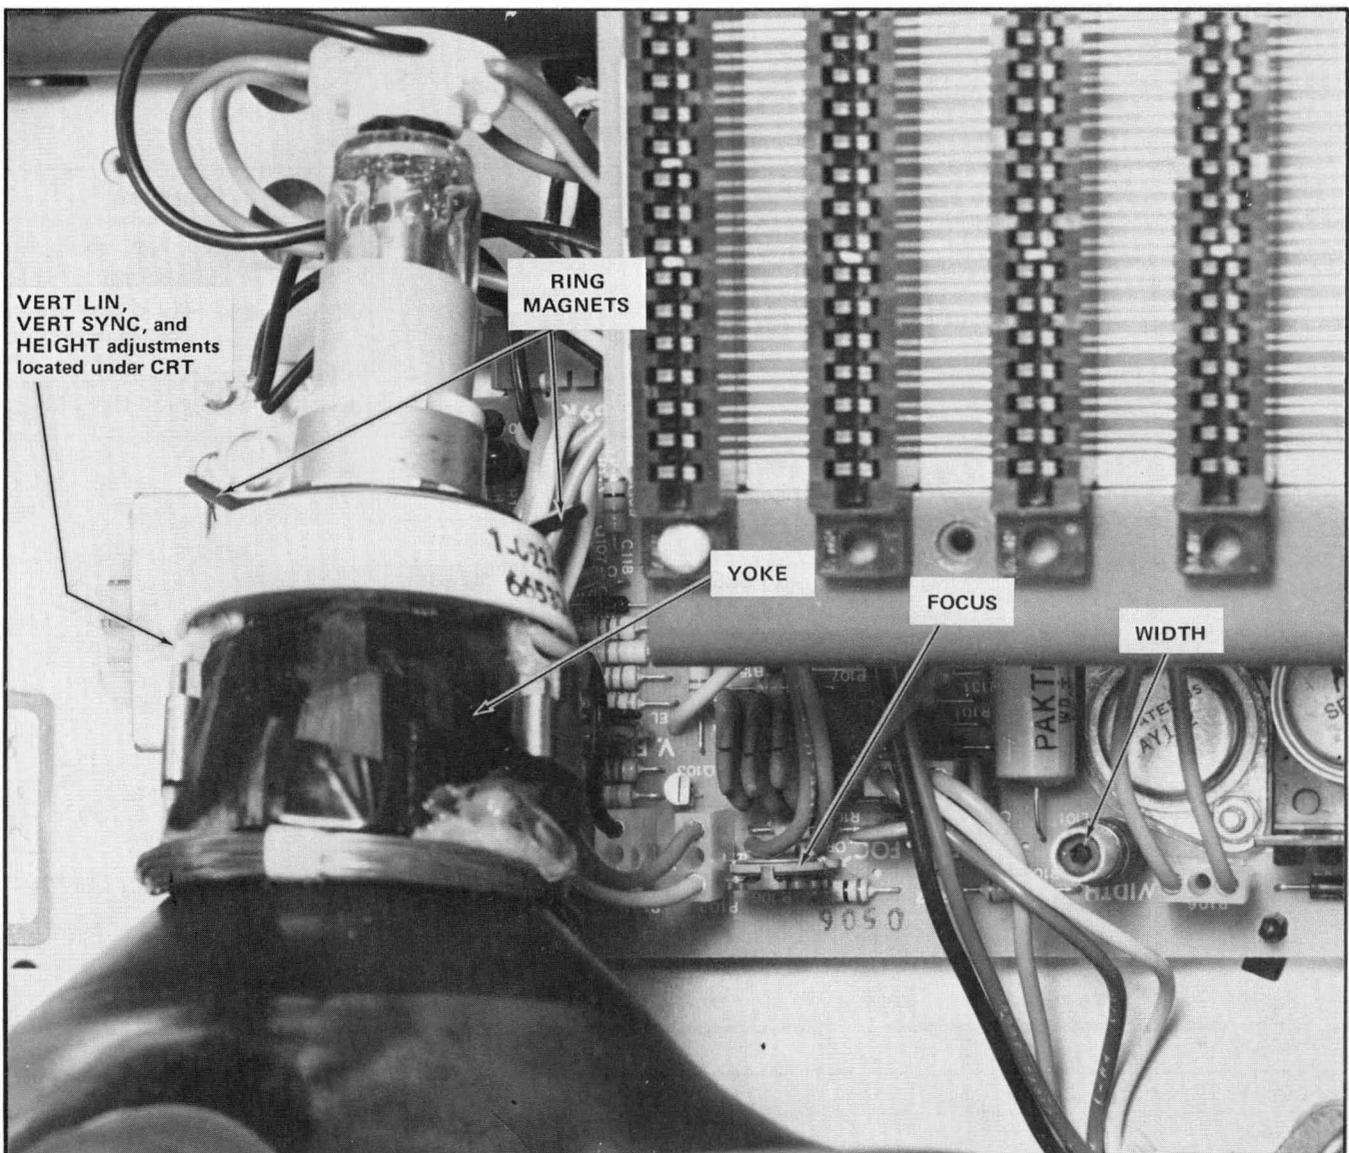

Fig. 4-2. Monitor Component locations.
b. Check display for tilt. If tilted, loosen the yoke clamp screw and rotate the yoke to level the display. Fig. 4-2 shows component locations.
b. Center display by using ring magnets on yoke assembly. Fig. 4-2 shows component locations.